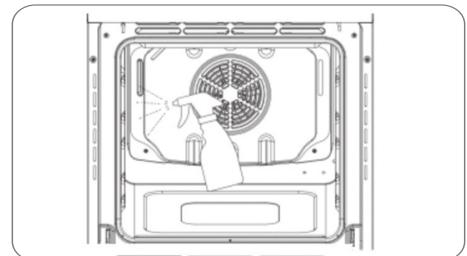

Fig. 4.6
2. Prepare a solution of water (85%), white vinegar (10%), and dish detergent (5%) and spray generously on the door, side walls, and rear wall of the oven cavity (Fig. 4.6).